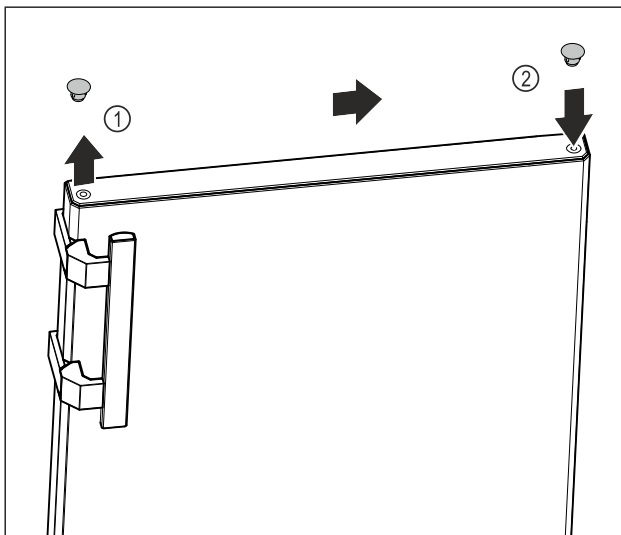

Fig. 14
- ▶ Carefully lift the cover plug on the top of the door Fig. 14 (1) with a slotted screwdriver.
- ▶ Insert the cover plug on the opposite side. Fig. 14 (2)